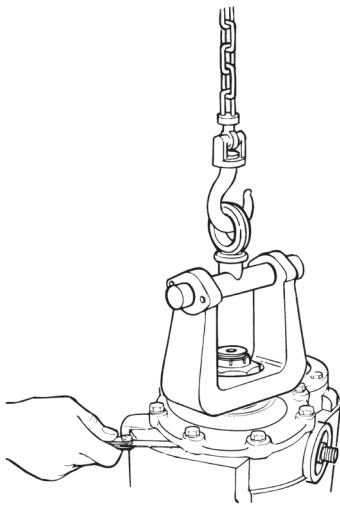

Figure 5.82
2. Use a feeler gauge to measure the gap between the input shaft bearing cage and the differential case. Inspect the gap at four equally-spaced places on the cage. Figure 5.82.